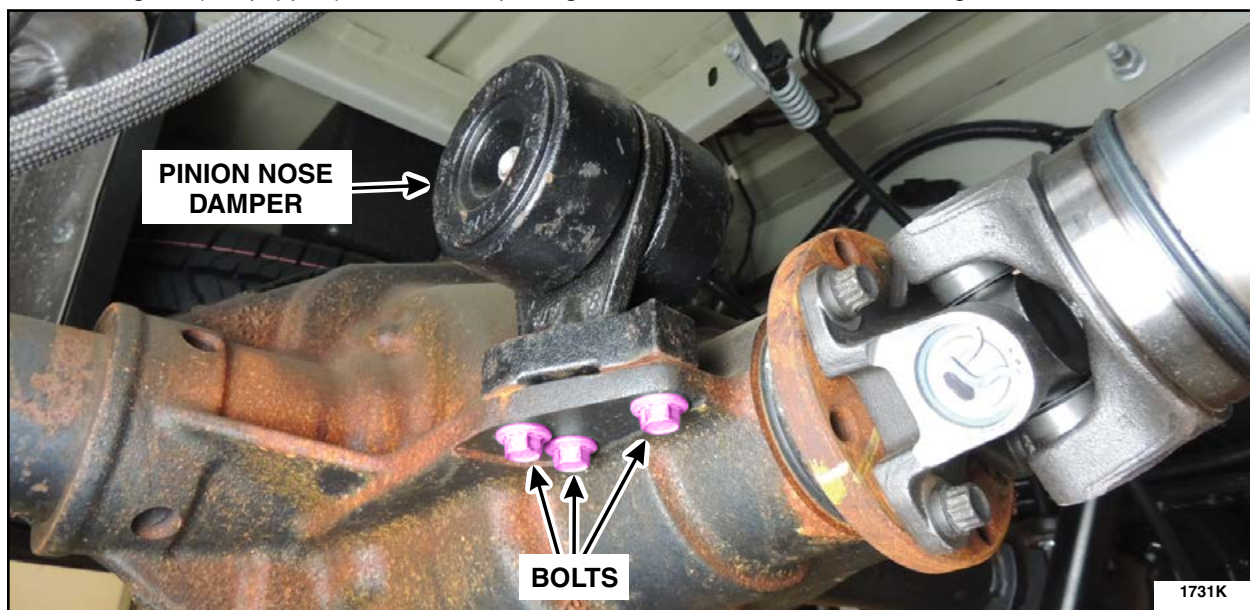

FIGURE 24
1. If a pinion nose damper is present, remove and discard the three bolts and the original pinion nose damper located on the RH side of the rear axle center housing. See Figure 24.
2. Install a *new* pinion nose damper and tighten the three bolts. See Figure 24.